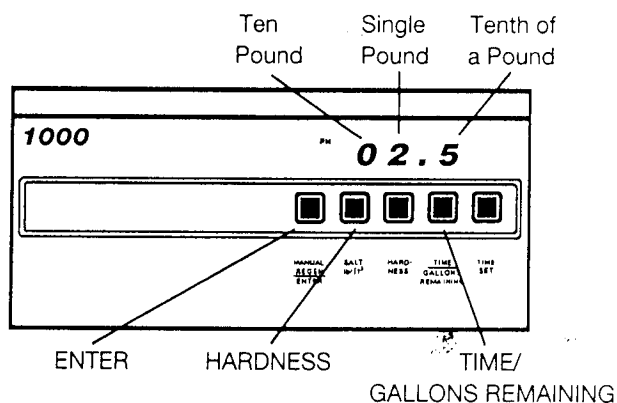

Figure 10
A. Simultaneously press the **SALT** and **TIME/GALLONS REMAINING** buttons (Figure 10). This number indicates the pounds of salt used per regeneration per cubic foot if the mineral bed is completely exhausted. In most cases, less salt will be used due to the **Proportional Salting** system this valve uses. It will make only enough brine to regenerate the resin that is exhausted.